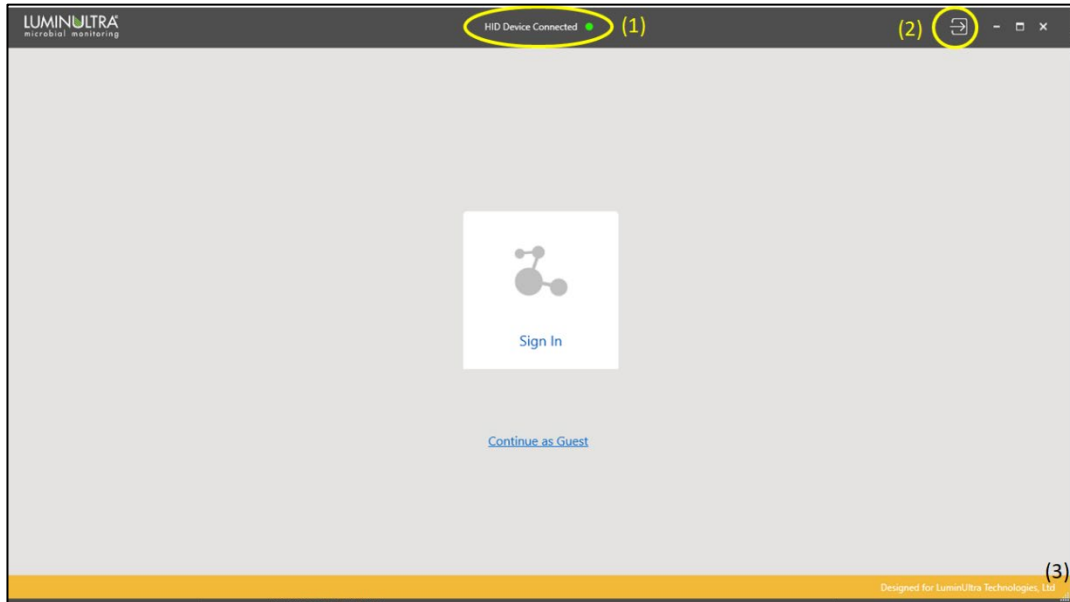

Figure 1 GeneCount software front page
When the GeneCount PC software is launched, after a brief delay for device initialization, the front page will display as shown in Figure 1.
Several notable features are marked in Figure 1. Marker (1) is an indicator of whether the GeneCount USB device is found. If found, a message “HID Device Connected” is shown along with a green dot. We call it HID, because the GeneCount instrument uses USB HID device class.